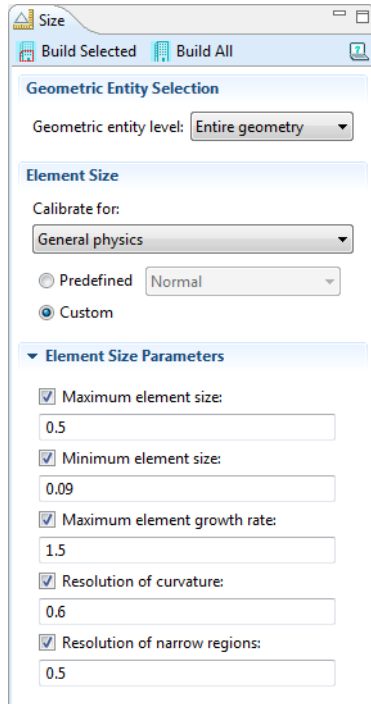

Figure 19-1: An example of custom element mesh sizes. You can also select Predefined element sizes.
- 1 In the **Model Builder**, click **Size** (  ) to display the settings window. See Figure 19-1.